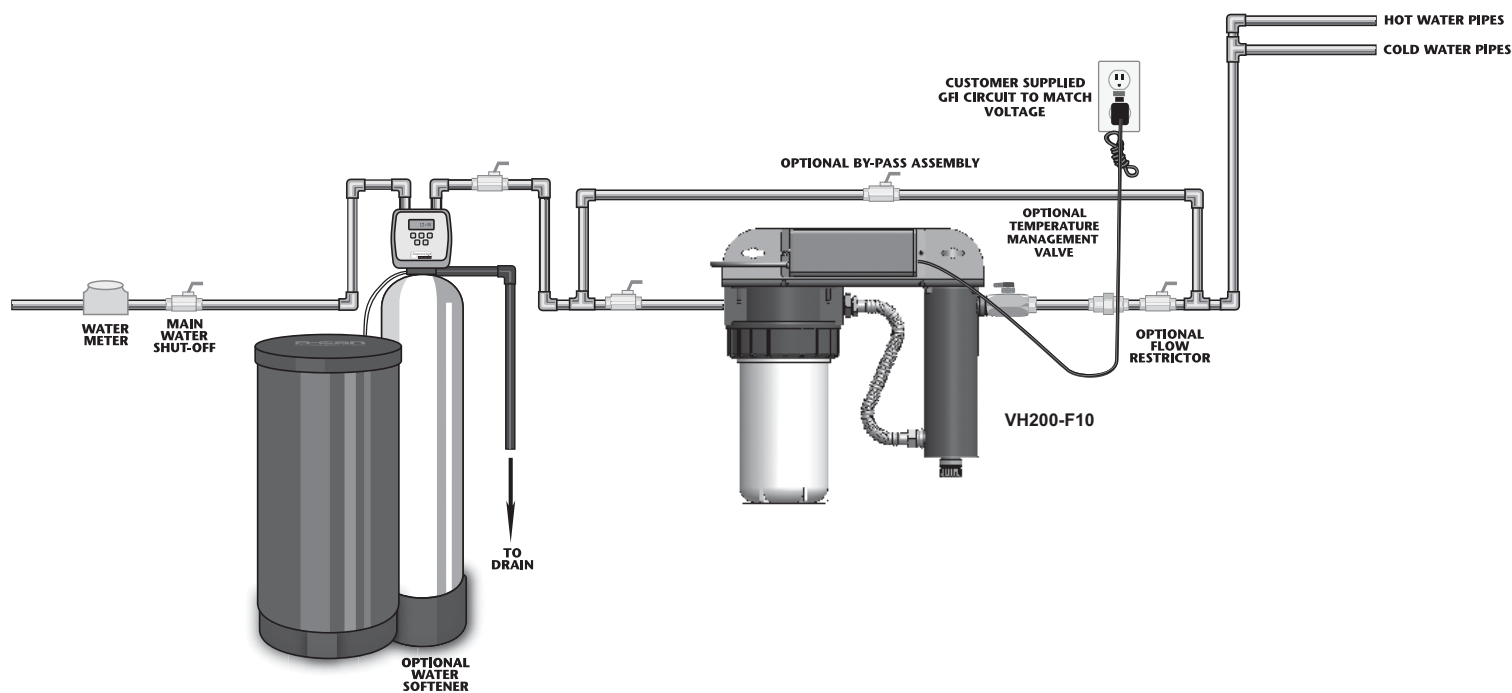

Figure 2 Disinfection System
1. Figure 2 shows the installation of a typical drinking water system and the related components that may be used for the installation. The use of a bypass assembly is recommended in case the system requires “off-line” maintenance. If this is the case, it must be noted that the system will require supplementary disinfection of the distribution system if any water is used during this bypass condition. In addition, during bypass, the water will NOT be disinfected and a “DO NOT CONSUME THE WATER” tag should be physically installed on the bypass assembly until such time as the system is sanitized and returned to service. Please refer to Section 3.2 for the complete disinfection procedure. If the water is to be consumed while the system is off-line, the water must be boiled for two minutes prior to consumption.